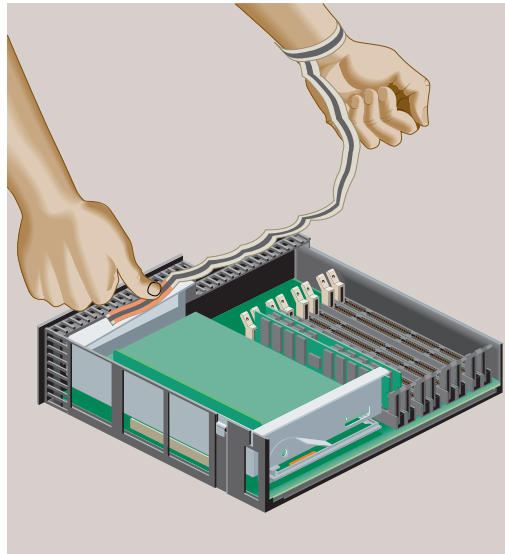

Figure 2-11 Attaching the Wrist Strap
2. Before touching any of the components, ground yourself to a metal part of the chassis. Attach the wrist strap to your wrist and to the PCI tray (Figure 2-11).